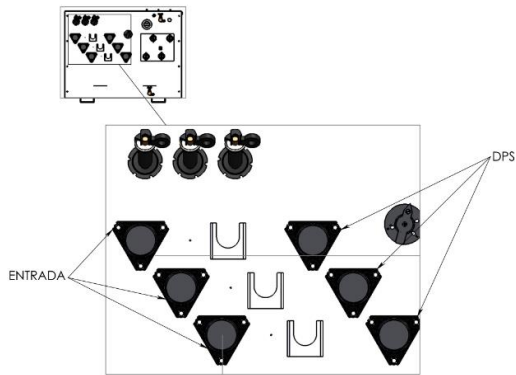

Figure 9. Location of elbow type DPS, on a radial front pedestal.
4. Connection of the elbow-type DPS (H.V.): the installation of the transient surge protection device must be in accordance with what is indicated in the Electrical Regulations of each Country. It is recommended to locate it in the insert bushing according to the diagram presented in figure 9.